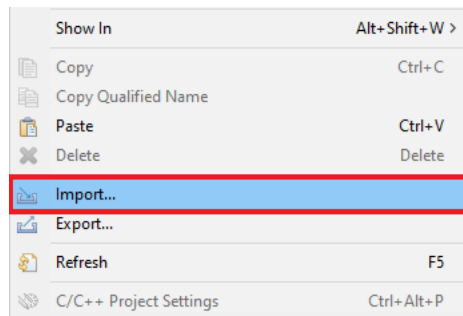

Figure 2. Right-click Menu to Import the Sample Project
1. To open the Import Wizard, right-click in the Project Explorer view and select **File > Import** from the menu that appears (Figure 2). *Note:* Verify that the RAA489220 sample project archive file has been downloaded from the Renesas website.